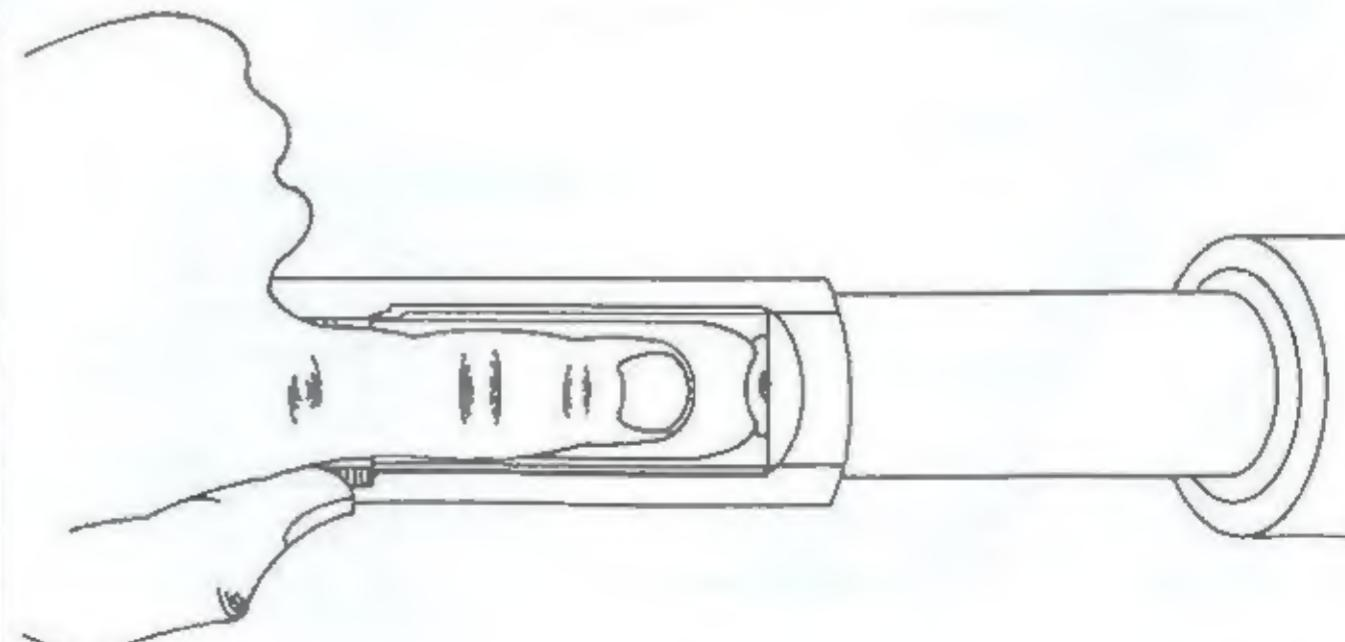

Fig. 7
4. Keeping the fore-end fully pulled back, press the carrier until it is retained near the chamber (see Fig.7).